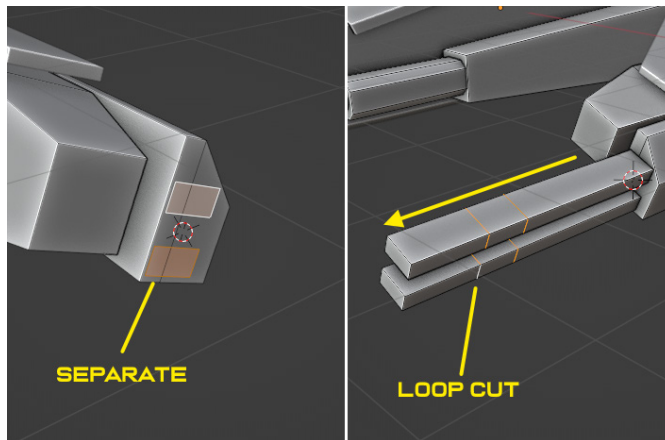

Figure 5.39 – Extruding planes
2. Using loop cuts, separate the plane into two smaller ones. Extrude planes in the direction of the front of the ship and add two loop cuts on each shape, as shown in *Figure 5.39*.